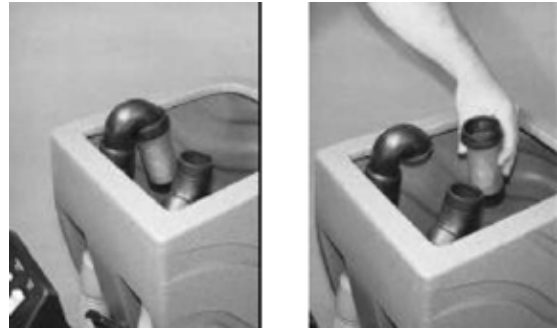

Figure 19. Remove Screen and Clean
2. Remove the float shut-off screen from the recovery tank and clean (see Figure 19).